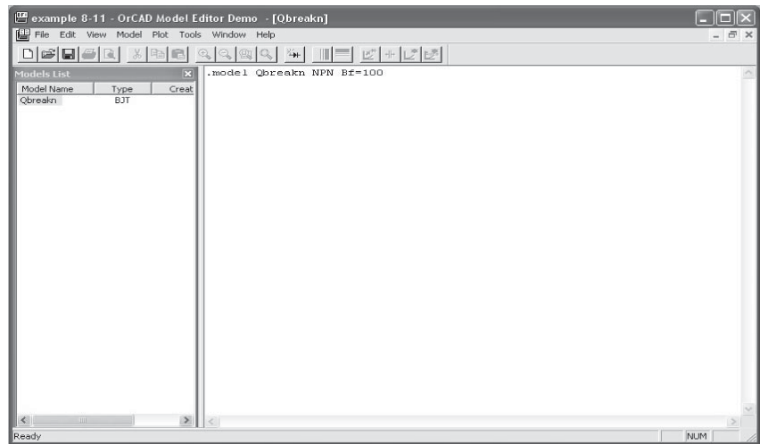

FIGURE 8.97 Set up the required parameters for transistor.
4. Change the model parameters of the transistor to those shown in Figure 8.97. Here, B_f represents the amplifier, β .